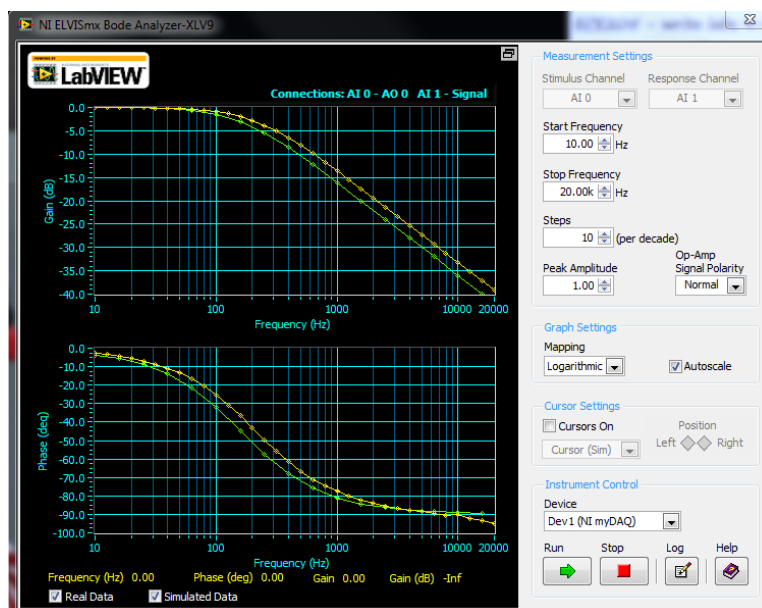

Figure 6: First order circuit Bode Plot (simulated and actual)
10. **Stop** the simulation and change the Device to **Dev1 (NI myDAQ)**. The actual data from the circuit will now plot on the same figure. Your plot should look similar to Figure 6.